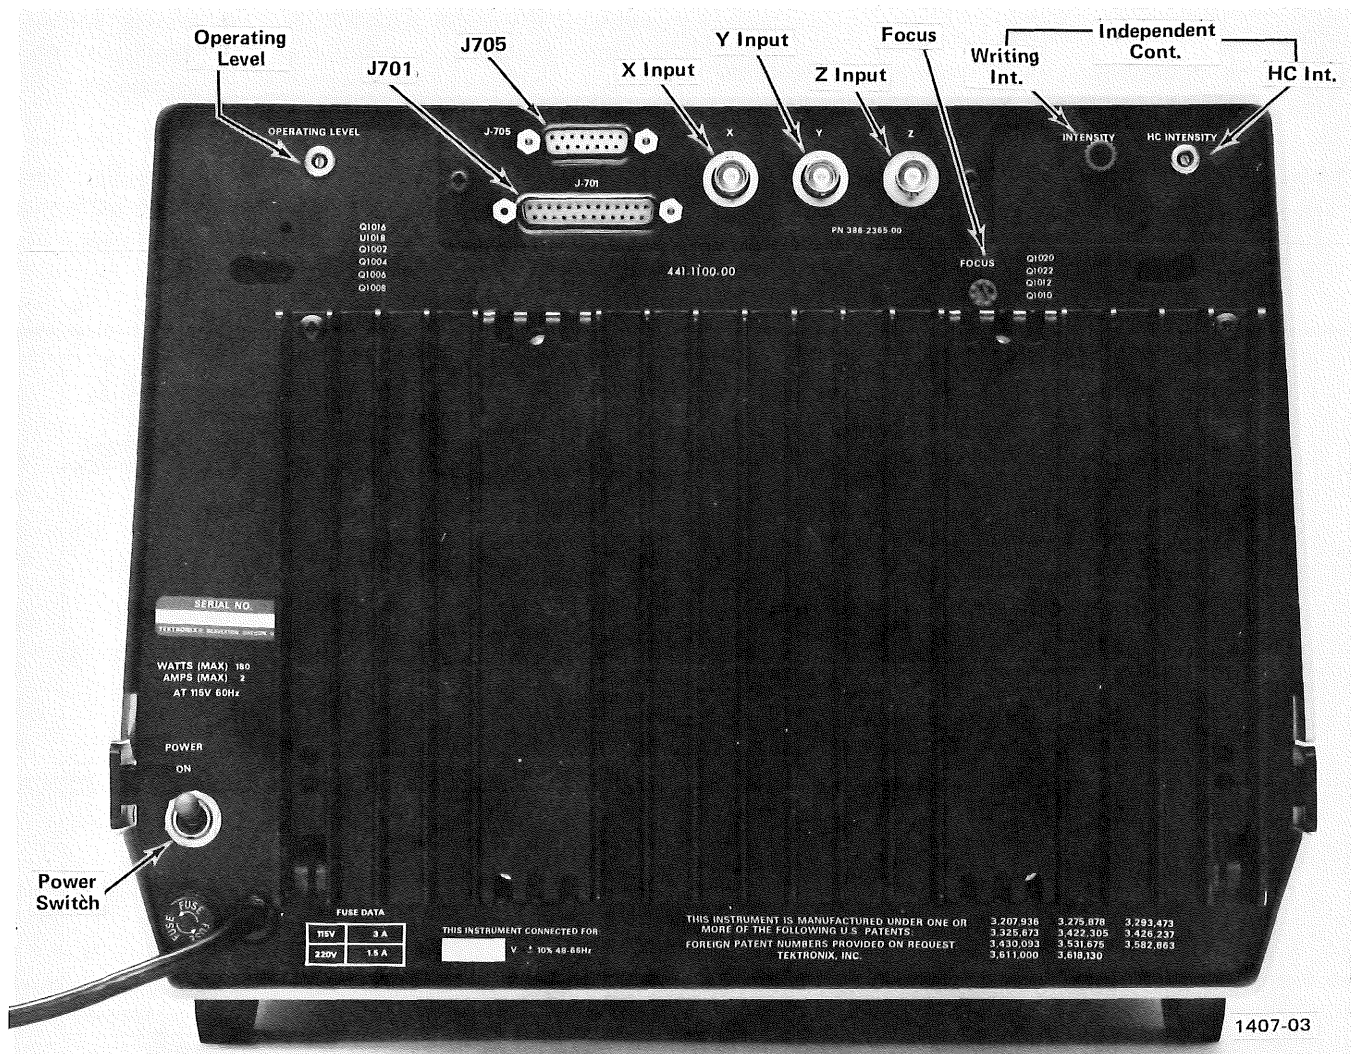

Fig. 1-3. Rear panel controls and connectors.
**Rear Panel.** Fig. 1-3 shows the rear panel, and the locations of the various controls and connectors to be found there.